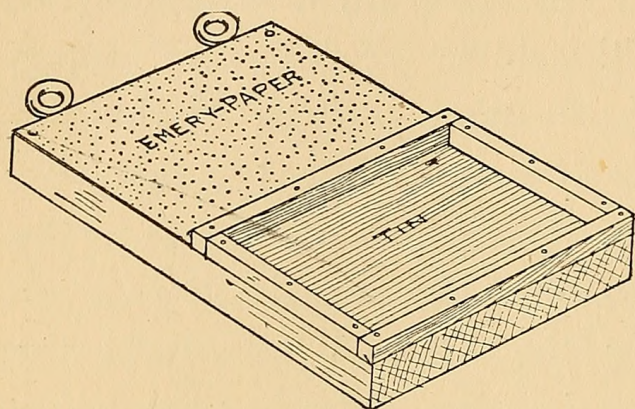

FIG. 157. — Flat-iron Rest.
**The Flat-iron Rest** is another convenience which a housekeeper will be glad to have, as it is much handier than an inverted pie-plate or folded newspaper to set an iron upon, and the sole of the iron may be cleaned by rubbing it on the piece of emery-paper fastened to one half of the board. This is shown in Fig. 157.